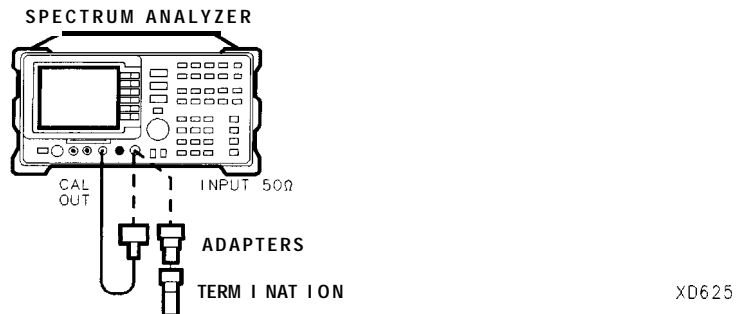

Figure 2-74. Displayed Average Noise Level Test Setup for Option 130
1. Connect a cable from the CAL OUT to the INPUT  $50\ \Omega$  of the spectrum analyzer as shown in Figure 2-74.